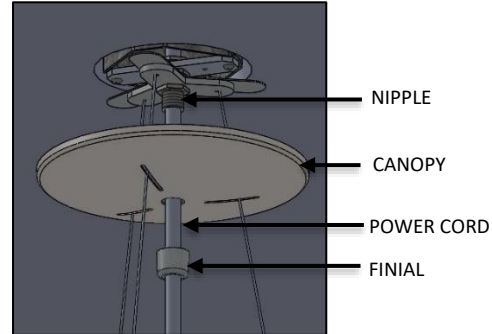

FIG. 21 – CORD INSTALLATION
8. Feed POWER CORD through the center hole in the CANOPY and make secure connection by passing through the NIPPLE (available in mounting bracket assembly) as shown below in FIG. 21.